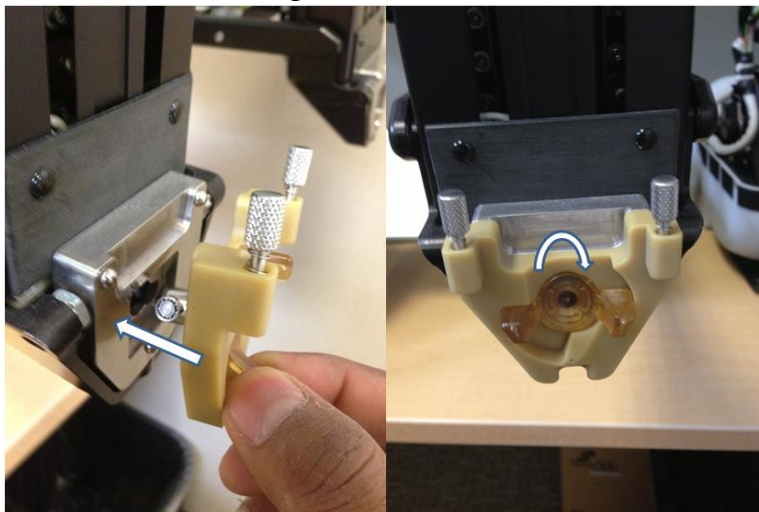

FIGURE 24: INSTALLING CANNULA HOLDER.
2. Once inside, twist the lock clockwise by 90 degrees to securely lock the cannula holder onto the PSM Arm as shown in Figure 24.